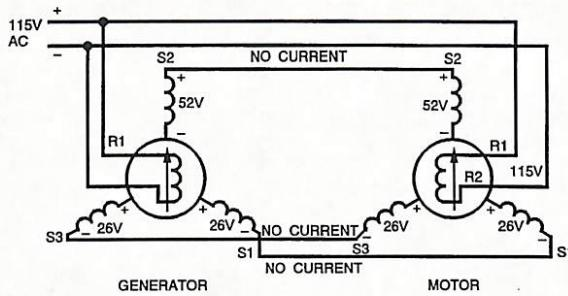

Figure 21. Basic Synchro System
**Synchro System Operation.** Synchros work in teams. Two or more syncros are interconnected electrically to form a synchro system. A generator and motor, properly connected, form a complete synchro system in which the motor shaft follows the generator shaft (Figure 21).
Each motor lead is connected to its corresponding generator lead. Each stator winding of the motor has a voltage induced in it that is opposed by an equal voltage in the corresponding stator winding of the generator. The conditions in Figure 21 exist when motor and generator rotors are at the 0° position. No current flows in the stator windings of either motor or generator. When the rotor positions change, the voltages induced in the stators change, but if both motor and generator are in corresponding positions, no current flows in the stators and no torque is produced.